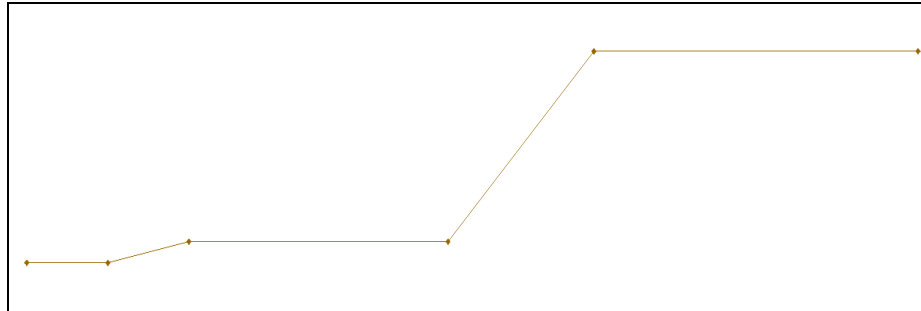

Figure 3 The slope geometry arcs
3. Using Figure 3 (below) as a guide, click on the points to connect them with arcs to create the slope.
At this point, the user should see something like Figure 3 below.